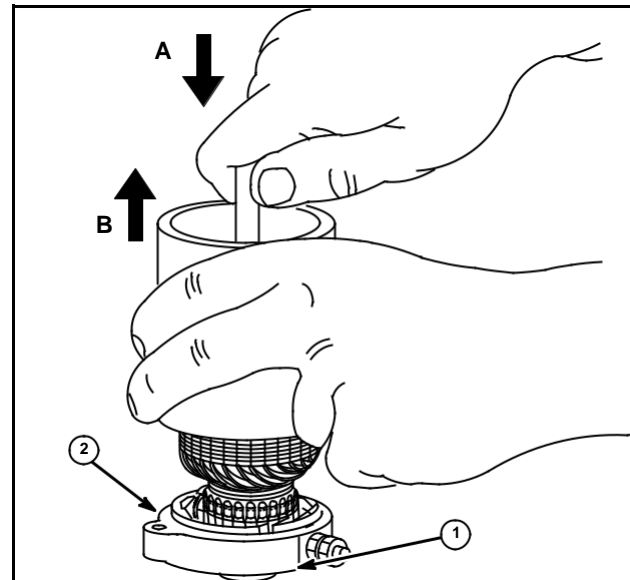

Fig. 77
3. Hold down the armature "A" and commutator end cap against a work surface (1) while sliding housing up "B" off the armature. This allows the armature to remain in the end cap for inspection of brush to armature contact, Fig. 77 (Typ).